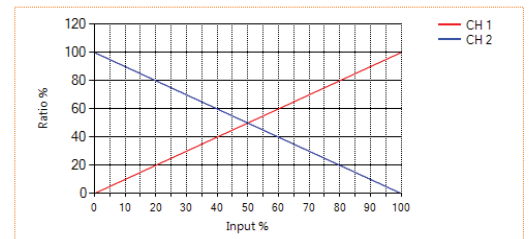

Figure 10: CCT mapping graph
Click **Lock CCT Mapping Table** to prevent changes from being made to the mapping table, this will also update the graph (shown in Figure 10).
*Tip: scroll to the bottom of the window to see graphs (shown in Figure 10) of the current mapping configuration.*